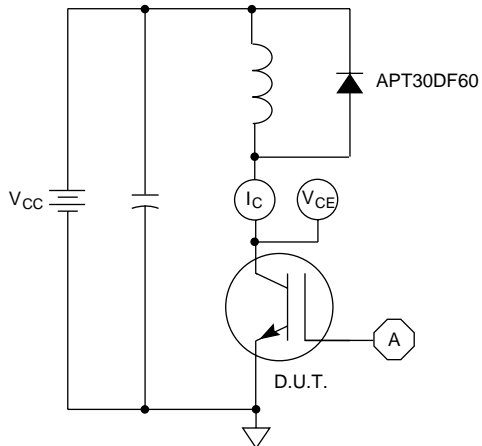

Figure 21, Inductive Switching Test Circuit
- ⑤ E_{on2} is the clamped inductive turn-on energy that includes a commutating diode reverse recovery current in the IGBT turn-on switching loss. A Combi device is used for the clamping diode as shown in the E_{on2} test circuit. (See Figures 21, 22.)
- ⑥ E_{off} is the clamped inductive turn-off energy measured in accordance with JEDEC standard JEDS24-1. (See Figures 21, 23.)